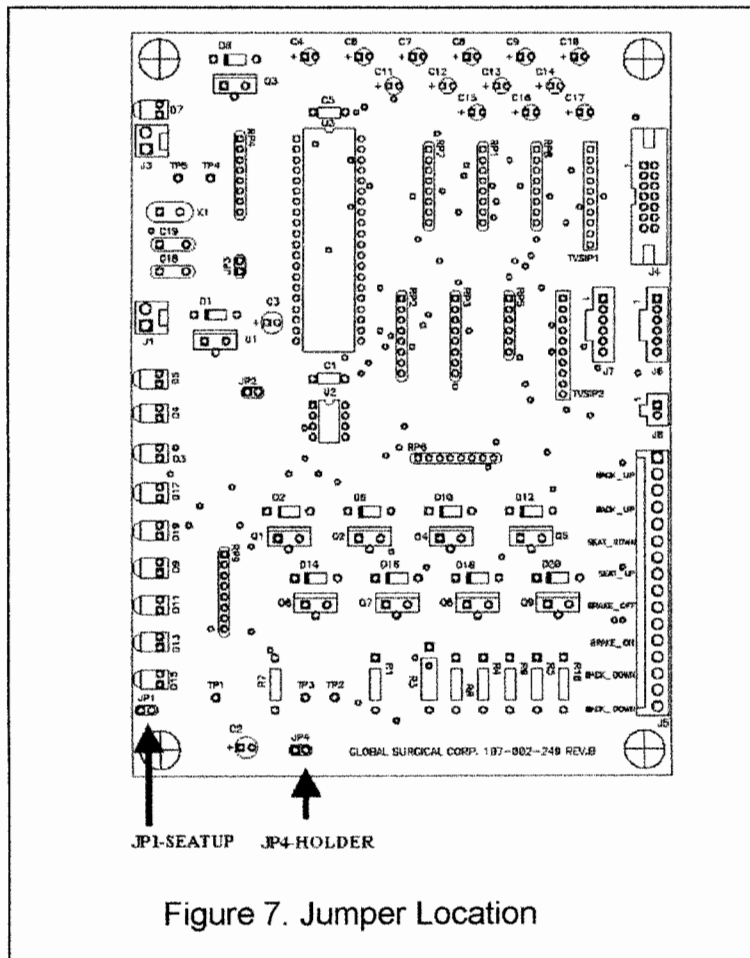

Figure 7. Jumper Location
2. **Warning:** The chair will move up after this step, keep all people and obstacles away from moving parts. Move the jumper from JP4 "HOLDER" to JP1 "SEATUP" on Control Board. (Fig 7)